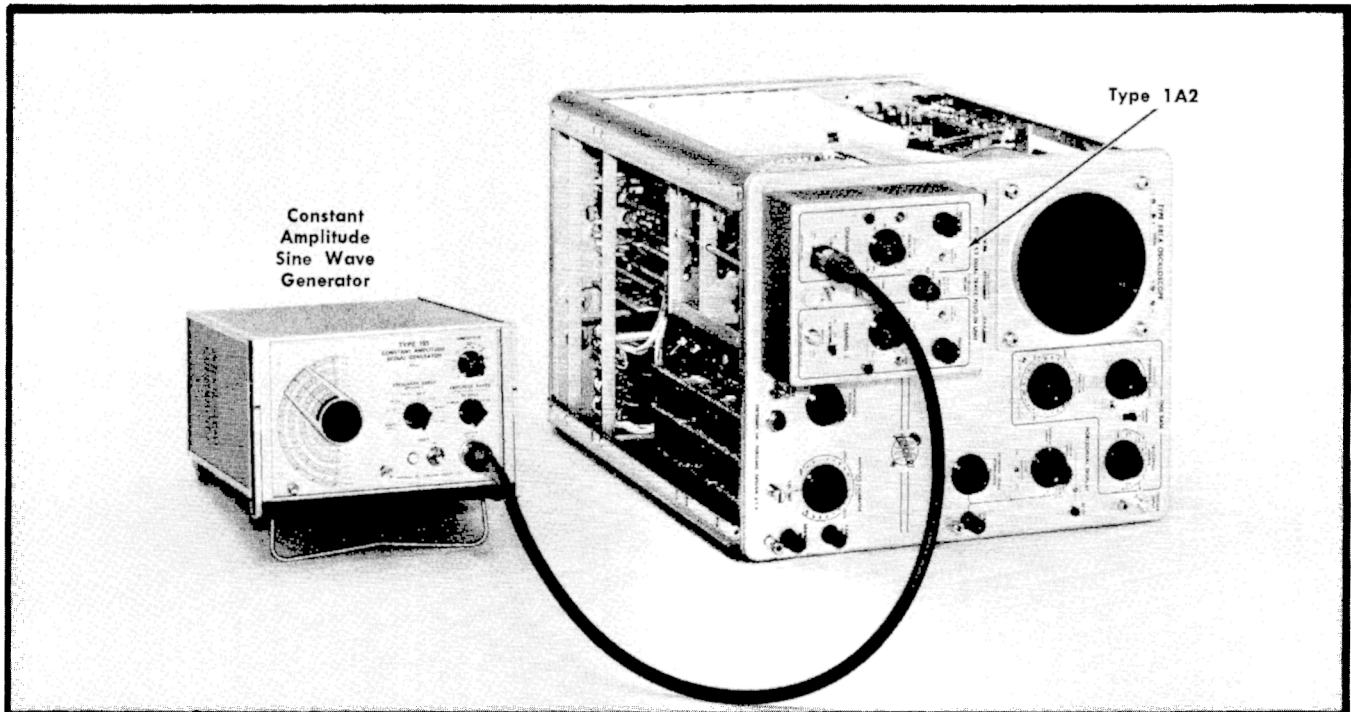

Fig. 14. Equipment setup for step 7.
- Equipment setup appears in Fig. 14.